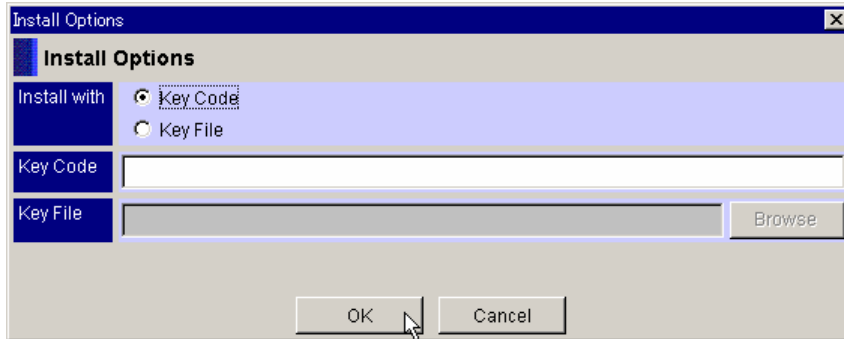

Figure 3.4 Install Options Dialog Box
- The **Install** button opens the **Install Options** dialog box (see Figure 3.4).